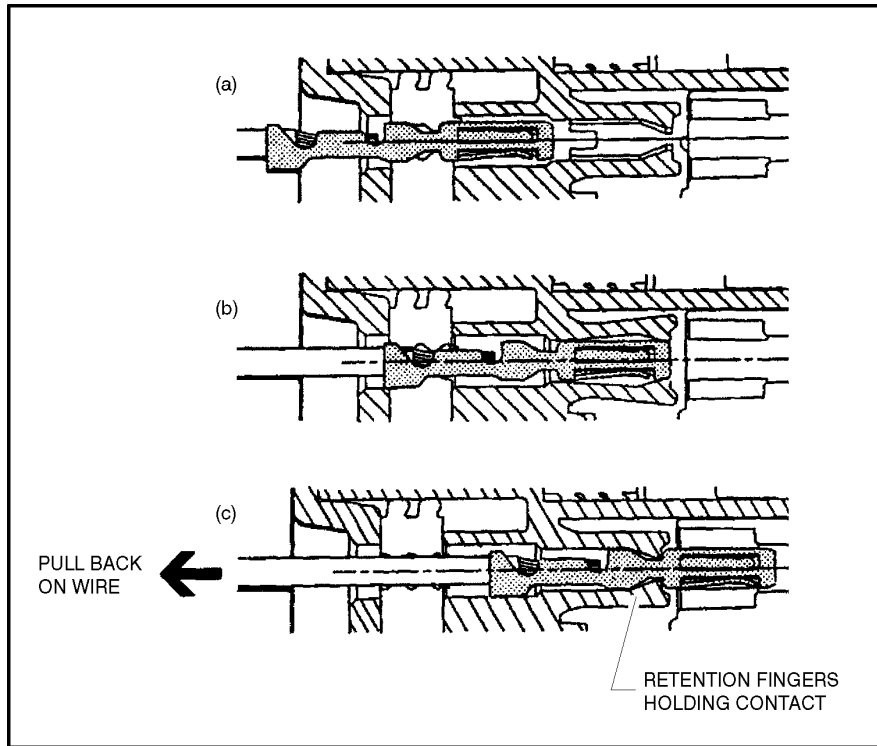

Figure 7-11. Connector Assembly Figure 2
1. To insert a contact, push it straight into the appropriate circuit cavity as far as it will go (See Figure 7-11.).
2. Pull back on the contact wire with a force of 1 or 2 lbs. to be sure the retention fingers are holding the contact (See Figure 7-11.).